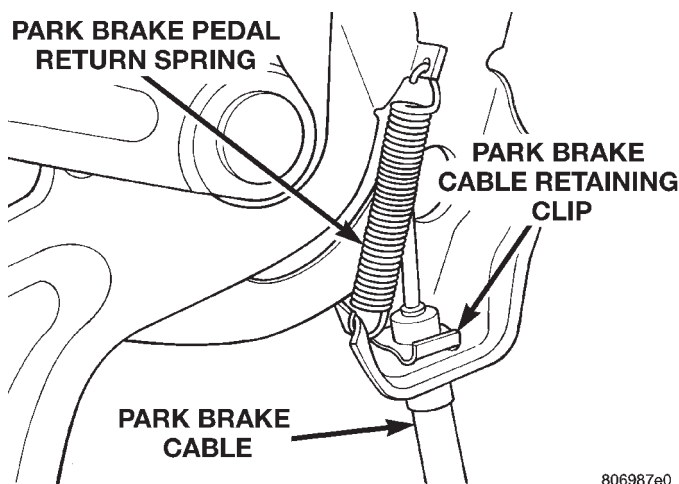

Fig. 115 Park Brake Cable Installed In Mechanism
(3) Install park brake cable to park brake pedal mechanism retaining clip (Fig. 115). Be sure retaining clip is fully installed on park brake cable.